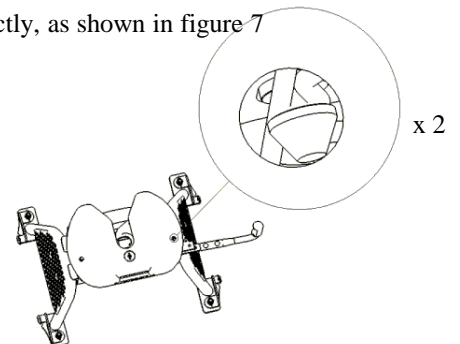

FIG. 7
3. Inspect through sight holes on top of head pan to make sure clips are assembled correctly, as shown in figure 7